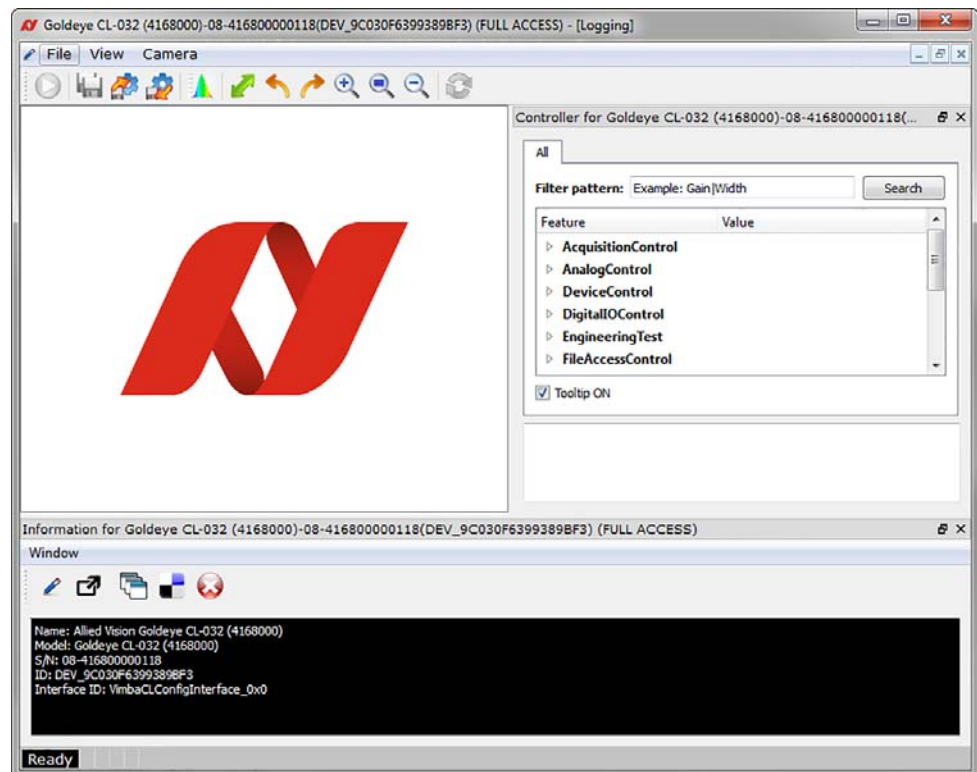

Figure 3: Vimba Viewer window
4. A new camera window appears, as shown in Figure 3 on page 25. This camera window consists of the following components:
The controller window is displayed in the top right section of the Vimba window, refer to Figure 3 above. It is used to configure the camera frame rate, exposure time, pixel format, and much more.